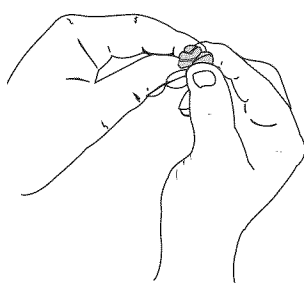

Fig. 24
5. Squeeze the filter to spread and remove excess oil (Fig. 24).